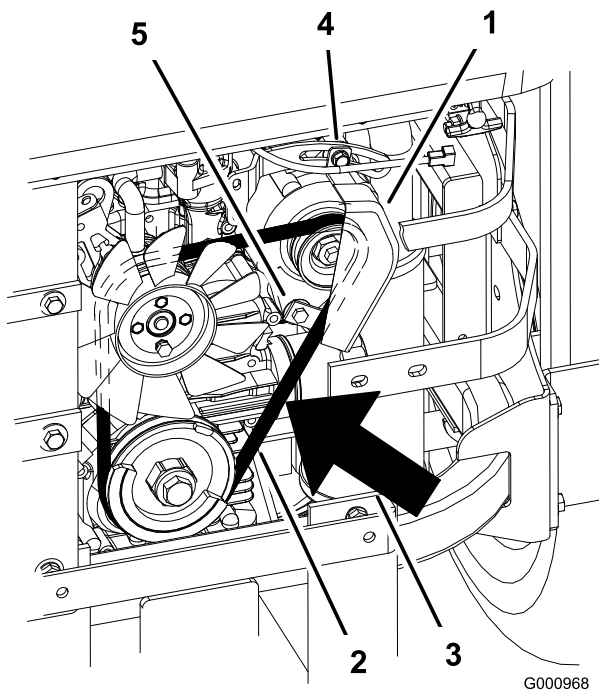

Figure 72
2. Adjust the alternator to the outside until there is 7 to 9 mm (1/4 to 11/32 inch) deflection in the belt between the engine and the alternator pulleys with 10 kgf (22.1 lb of force) (Figure 72).
5. If the deflection is correct, tighten the bottom and upper bolt (Figure 72).